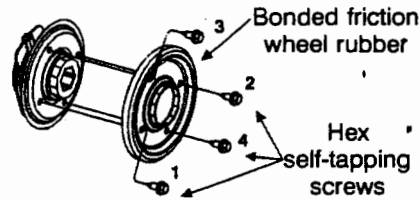

FIGURE 20
- Reassemble new bonded friction wheel rubber to the friction wheel assembly, turn each screw approximately 2 turns in order shown in Figure 20 until screws are tight. **It is important for the rubber to be assembled symmetrically.**